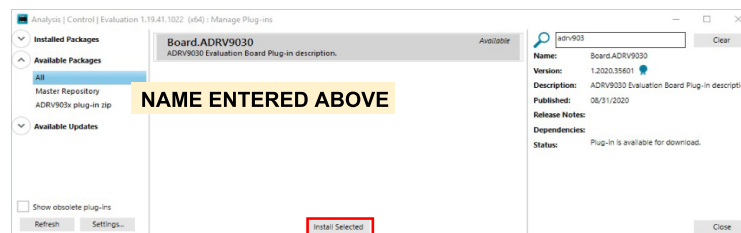

Figure 67. ADRV903x Plugin Installed Using ACE Plug-in Manager
6. Launch the **Plug-in Manager** and then select and install **Board.ADRV9030** from the list of **Available Packages** as shown in Figure 67.